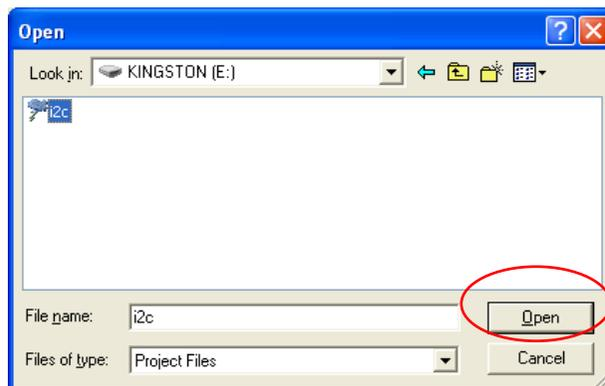

Figure 80:
6. Search for and select the project file. Select 'Open' (Figure 80).